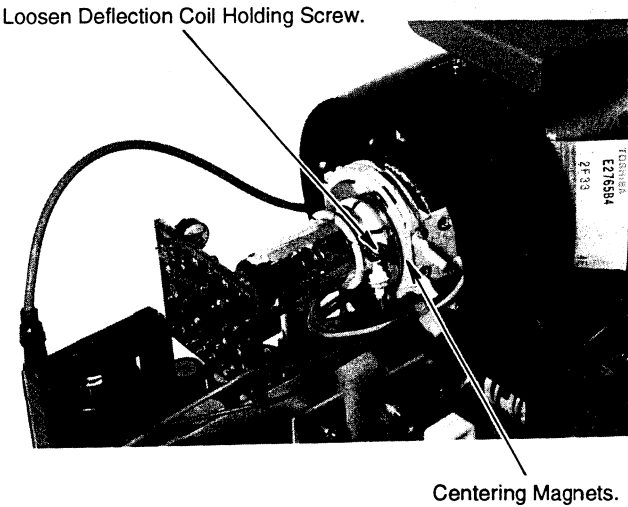

Fig. 4-1
| •           | Loosen the Deflection Coil Holding Screw as shown in Fig. 4-1. |
- Adjust the Centering Magnets as shown in Fig. 4-1 until the raster becomes to the center of the monitor screen.
(4) Vertical Width and Vertical Linearly Coarse Adjustment